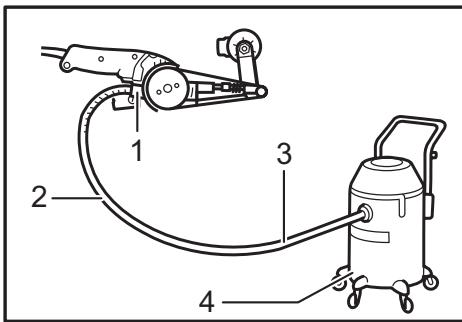

Fig.6
► Fig.6: 1. Nozzle 2. Hose 19 3. Hose of vacuum cleaner 4. Vacuum cleaner